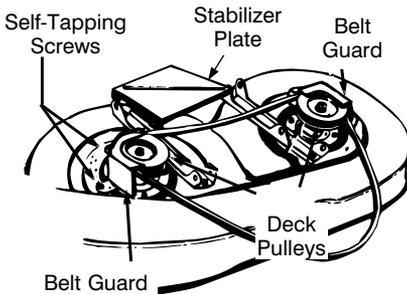

FIGURE 21
9. Remove the belt guards at each deck pulley by removing the self-tapping screws. See figure 21.